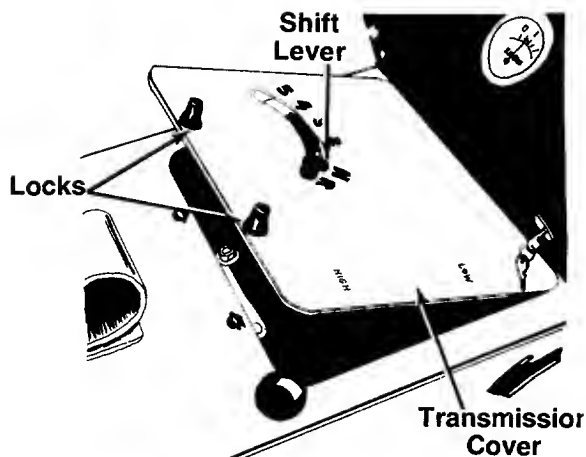

FIGURE 3.
2. Push down and turn the locks on the transmission cover. See figure 3.